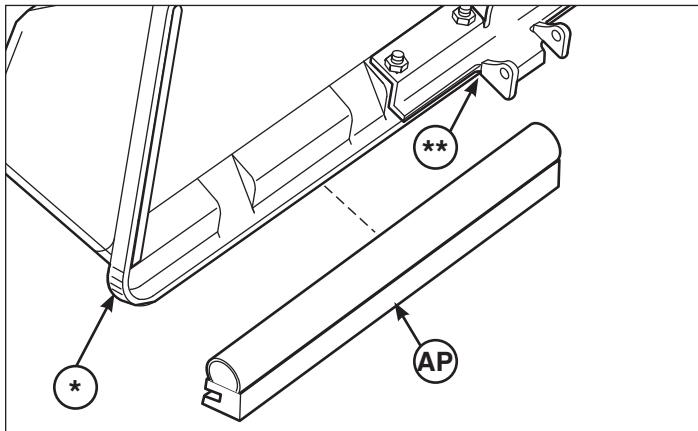

Figure 30
4. From inside of the grass collector, slide the cover edging (**AP**, Figure 30) onto the cover starting at the left side of the hinge edge (*) to the corner (**) on the cover edge as shown.